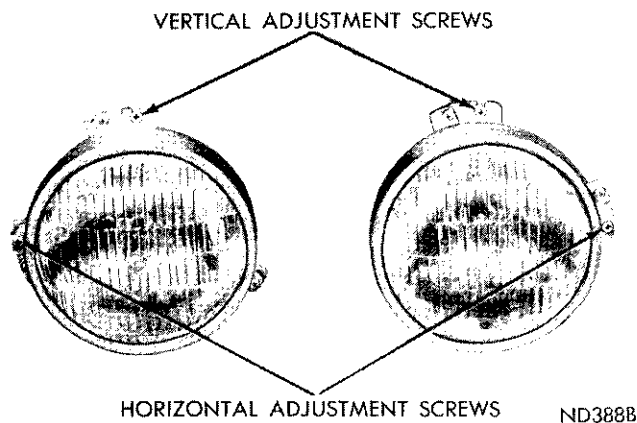

Fig. 5—Headlight Adjusting Points
(2) While sighting through viewing port of aimer, turn horizontal adjusting screw on headlight until split target image line merges into one unbroken line. To remove backlash, be sure to make a final adjustment by turning headlight horizontal adjusting screw in a clockwise direction (Fig. 5).
(3) Make horizontal adjustment on other side of vehicle in same manner.
zontal adjustment. (See Fig. 5).